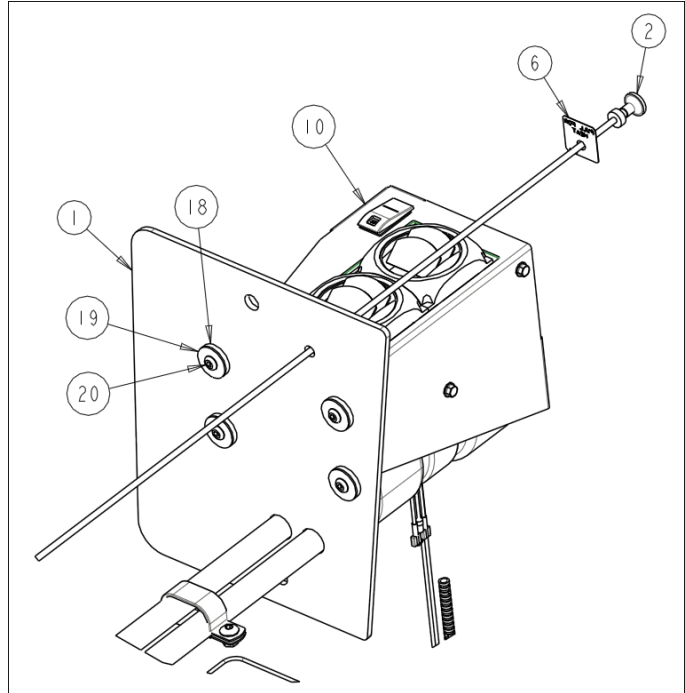

Figure 2B
6. Secure the heater unit (10) onto the inside surface of the new window using (**Figures 2B and 3**);